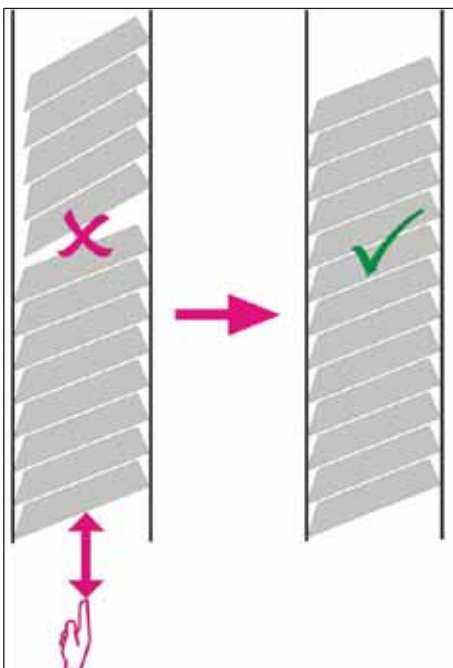

Fig. 29
✓ The cassettes should then lie in the magazine properly (→ "Fig. 29").
- If taped cassettes are used, make sure the newly inserted stack aligns perfectly with the previously loaded cassettes (→ "Fig. 29").